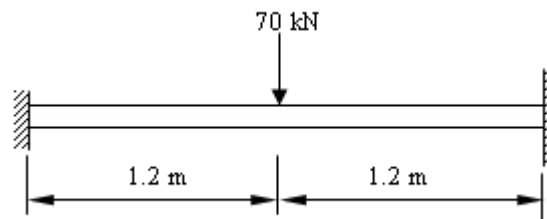

Figure 2:
- Determine the deflection and slope under the point load for the beam shown in figure 2. $E = 180\text{GPa}$; $I = 2 \times 10^{-6} \text{ m}^4$. [8+8]